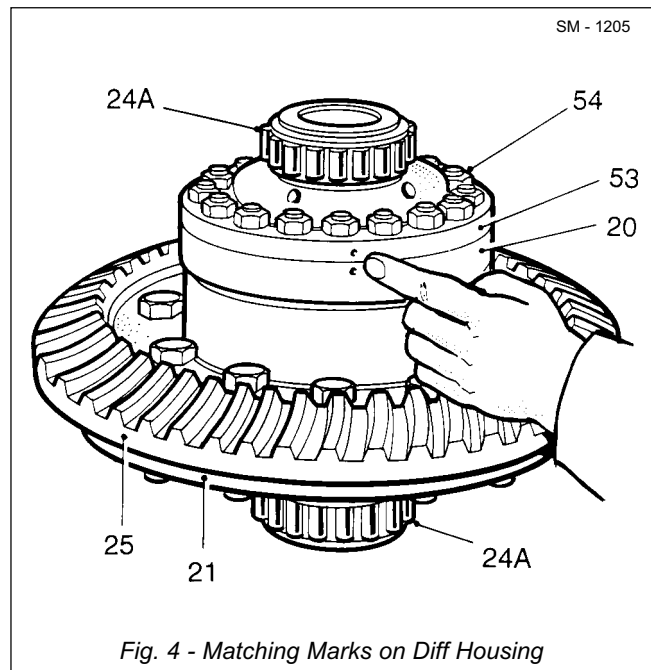

Fig. 4 - Matching Marks on Diff Housing
4. Check end flanges (21 & 53) and differential housing body (20) for identification and matching marks (See Fig. 4). If unmarked, centre punch the parts to ensure correct mating on assembly.
5. Remove nuts (54) from studs (19) which fasten upper end flange (53) to differential housing body (20).
6. Lift off end flange (53) and thrust washer (26).